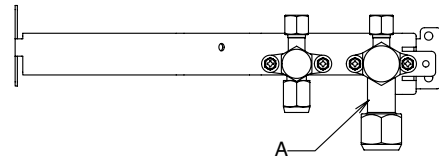

Fig. 7-7
- When removing or tightening the gas tube flare nut, use 2 adjustable wrenches together: one at the gas tube flare nut, and the other at part A. (Fig. 7-7)